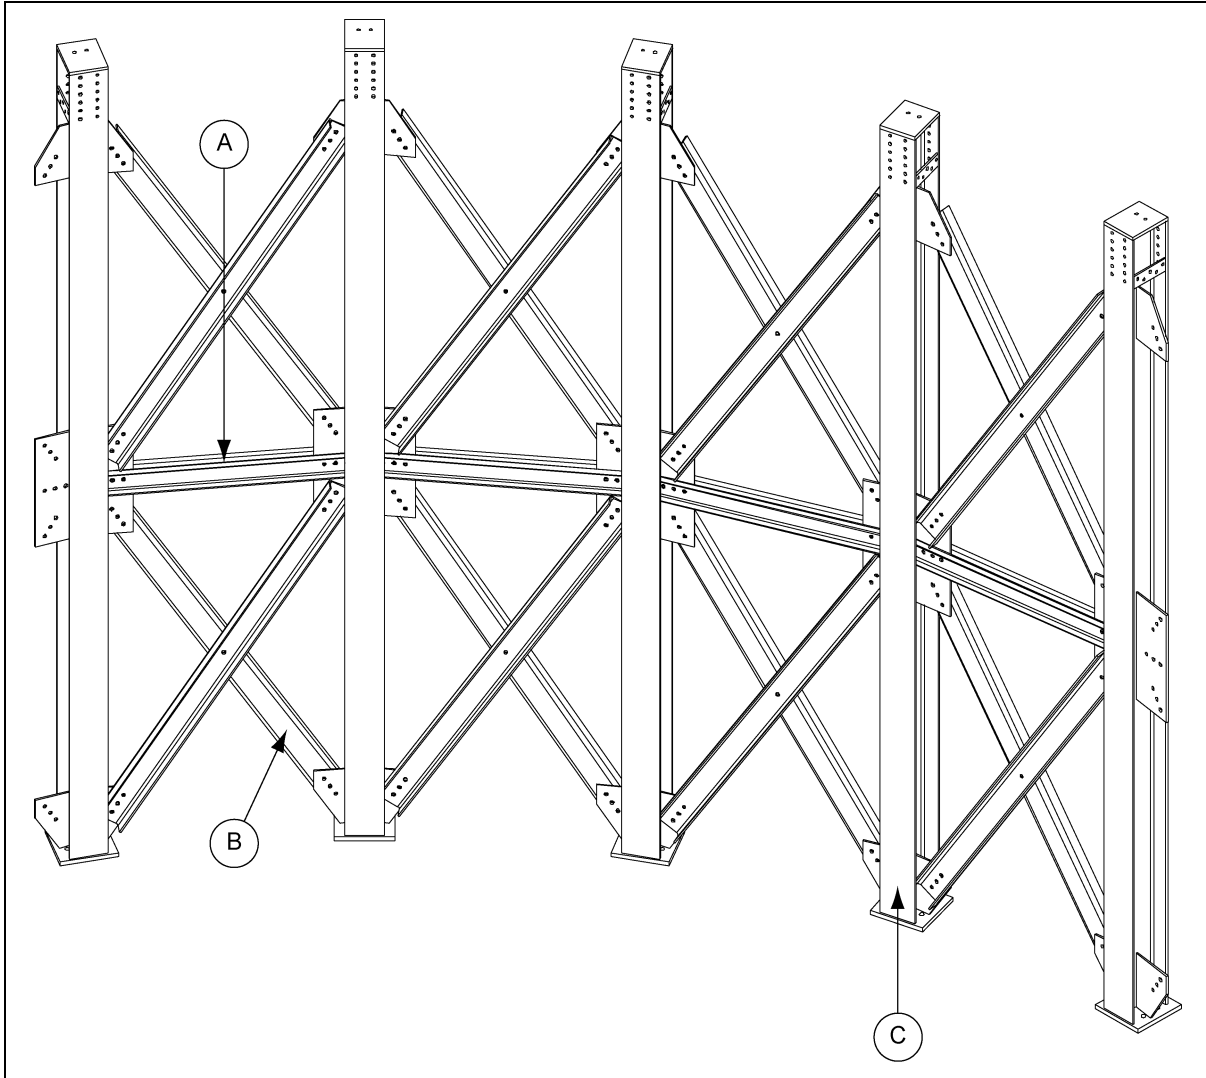

Figure 7B Bracing Erection
Using 1/2"-13 x 1-1/2" hex head bolts for all brace connections with a washer on each side. Fasten the diagonal and horizontal braces to the support columns as shown in Figure 7B. The horizontal brace consists of two (2) formed channels placed back to back. Connect each set of diagonal braces at their intersection. *Do not tighten bolts until after hopper panels are installed to allow alignment.*